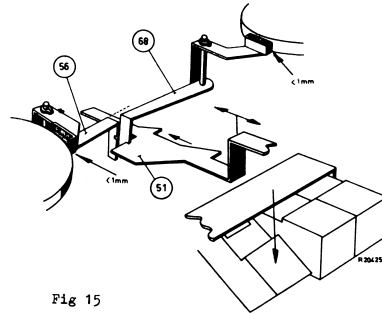

Fig 15
- When the rewind key is depressed, the reel bracket 51 is moved backwards. The brakes 56 and 68 are lifted by a cam on the reel bracket from both reel discs (see fig. 15).